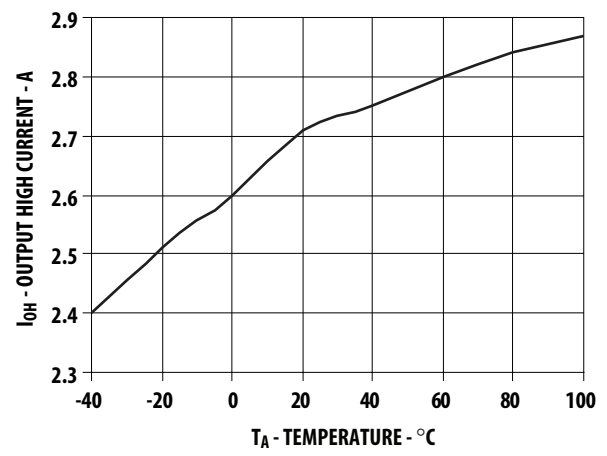

Figure 2.  $I_{OH}$  vs. Temperature
– maximum values allowed in the event of a failure, also see Figure 2.